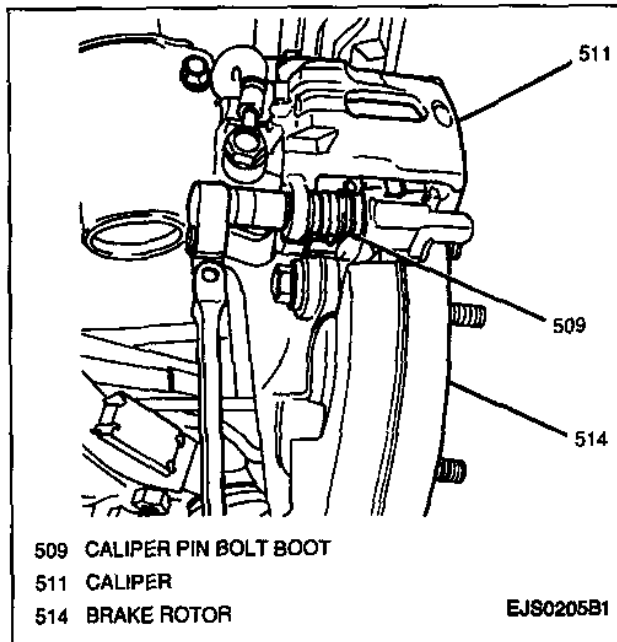

Figure 6—Removing Caliper Pin Bolts
6. Two caliper pin bolts (Figure 6).
Figures 6 through 11